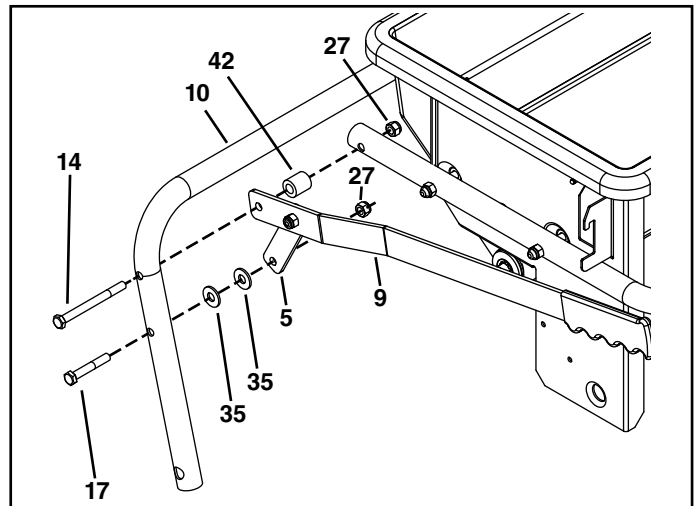

FIGURE 3
- Insert a 5/16" x 3-1/2" hex bolt (14) through the transport tube (10), the lift handle (9), a spacer (42), and through the hitch tube. Secure with a 5/16 nylock nut (27).
- Insert a 5/16" x 2" hex bolt (17) through the transport tube (10), two 5/16" flat washers (35), and the handle brace bracket (5). Secure with a 5/16" nylock nut (27). **Tighten.** See figure 3.